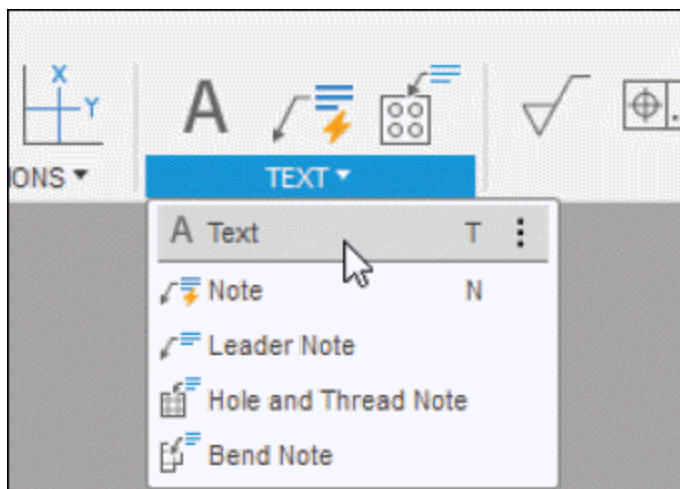

Figure-84. Text tool
- Click on the **Text** tool from **TEXT** panel; refer to Figure-84. The **Text** tool is activated and you will be asked to draw a text box.